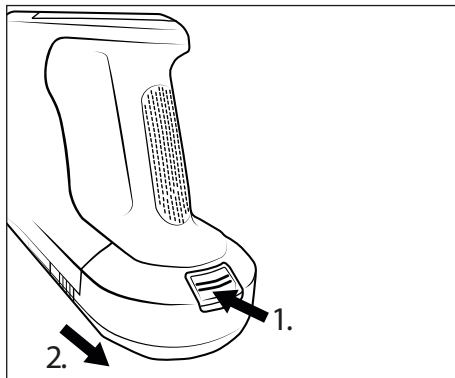

Fig. 13
- ◆ To remove the battery ② from the appliance, press and hold the battery release button ① and pull the battery ② out of the appliance (see Fig. 13).